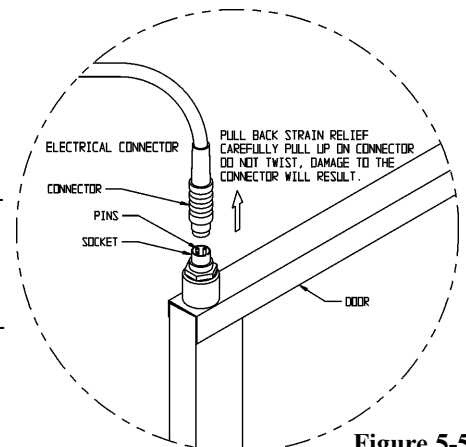

Figure 5-5
6. Refer to item “D” in the illustration and the drawing in Figure 5-5. The heater wiring connector is of yellow rubber which should be visible when the strain relief is moved upward as shown. Refer to connector manufacturer’s instructions in Appendix A of this manual.
10. The shoulder of the bushing must be on top as shown in Illustration B. Install the black plastic bushing into the hinge just removed and which will be the top hinge when the door is reversed. Refer also to Figure 5-5.